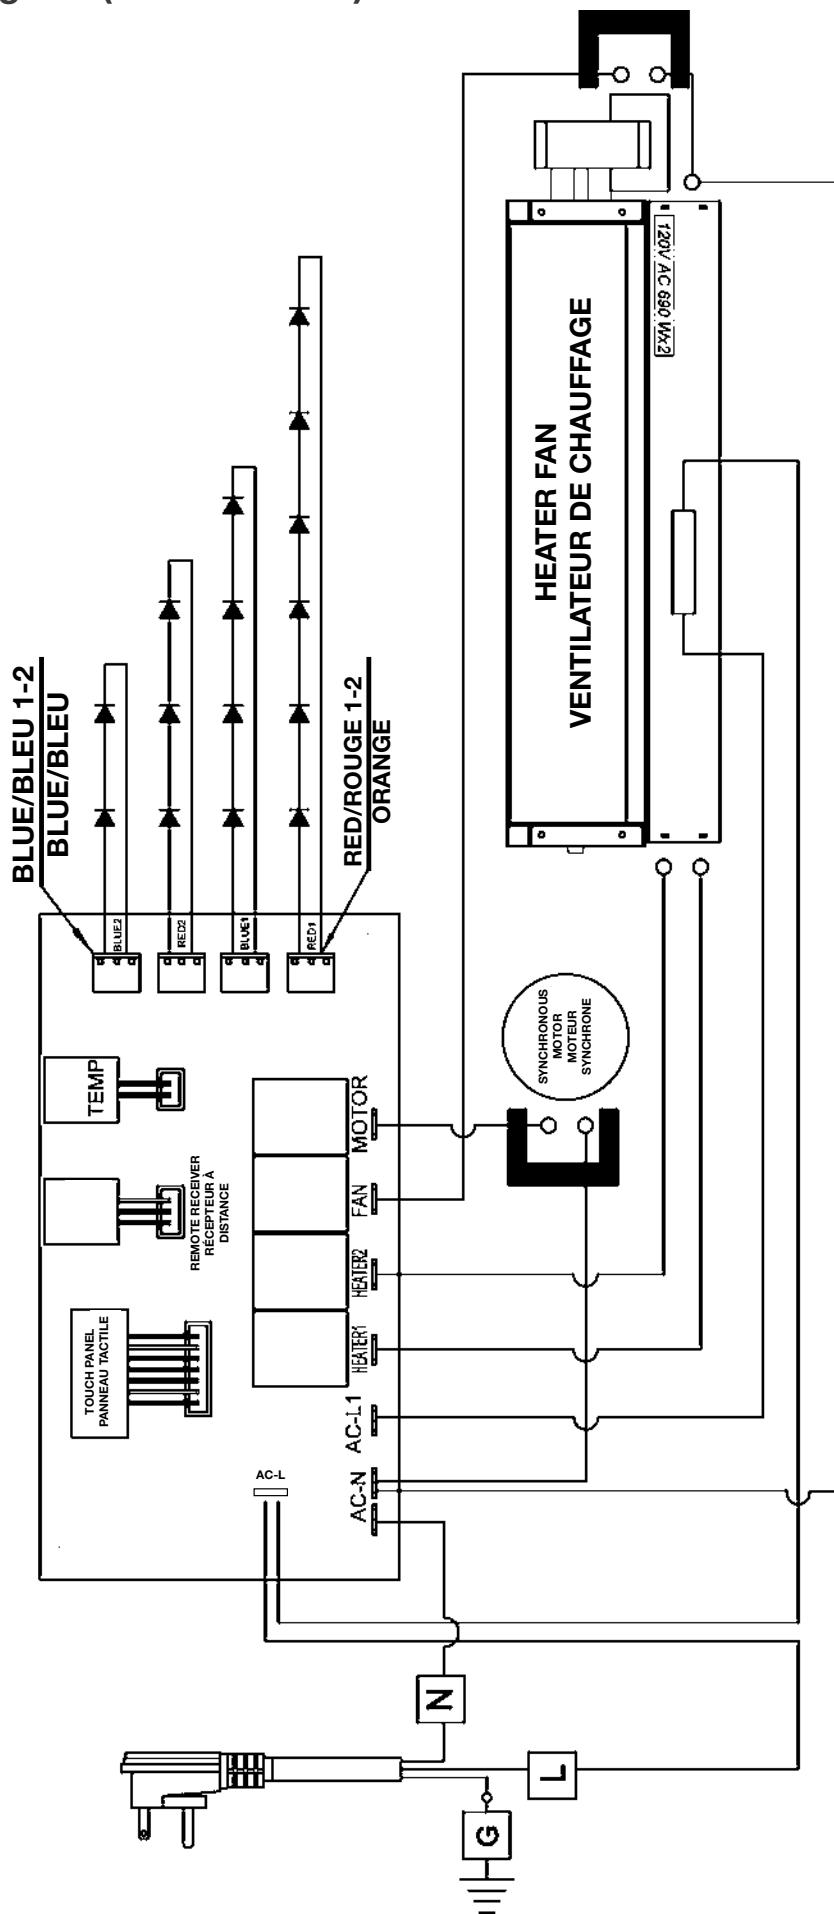

Fig. 4-3
- Using the wire connectors supplied in the hardware kit, connect the ground green wires (G), the common white wires (N) together, and the hot black wires (L) (**Fig. 4-3 and 4-4**).